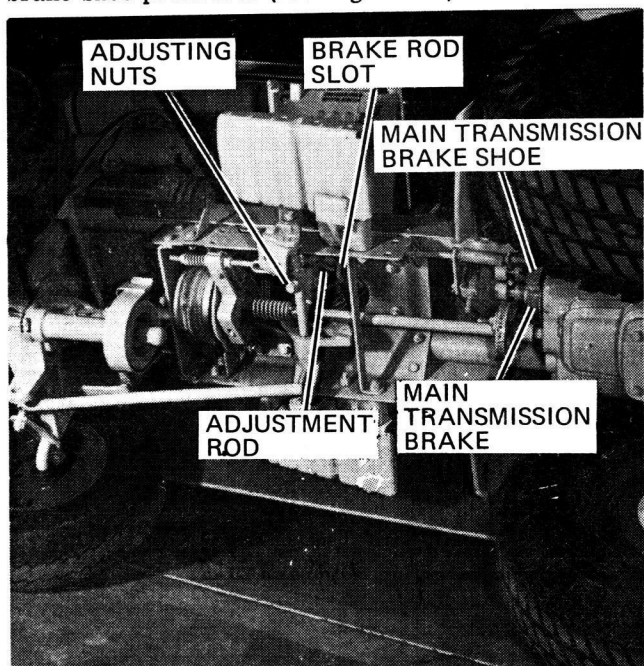

Figure 12
1. Depress CLUTCH-BRAKE pedal approximately two-thirds (until rear clutch flange has moved back to touch stationary plate). At that time the adjusting rod has moved up to top of brake rod slot. (See Figure 12.)
2. Exert additional pressure on pedal to move brake shoe shown in Figure 12, toward Main Brake drum.
4. Adjust nuts on adjusting rod to insure adequate brake shoe pressure. (See Figure 12.)